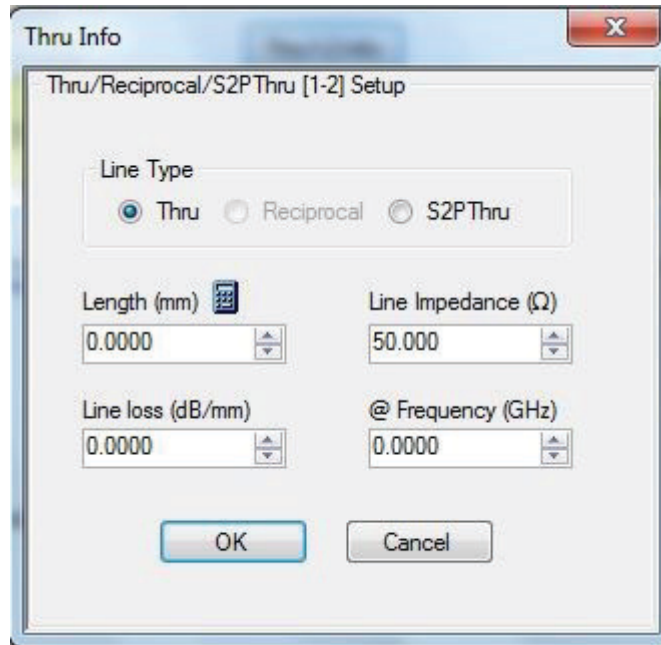

Figure 3-10. THRU INFO Dialog
7. Click on Thru1-2 Info and the screen appears (see Figure 3-10) and verify Length (mm), Line loss (dB/mm), and @Frequency (GHz) are set to 0.000.